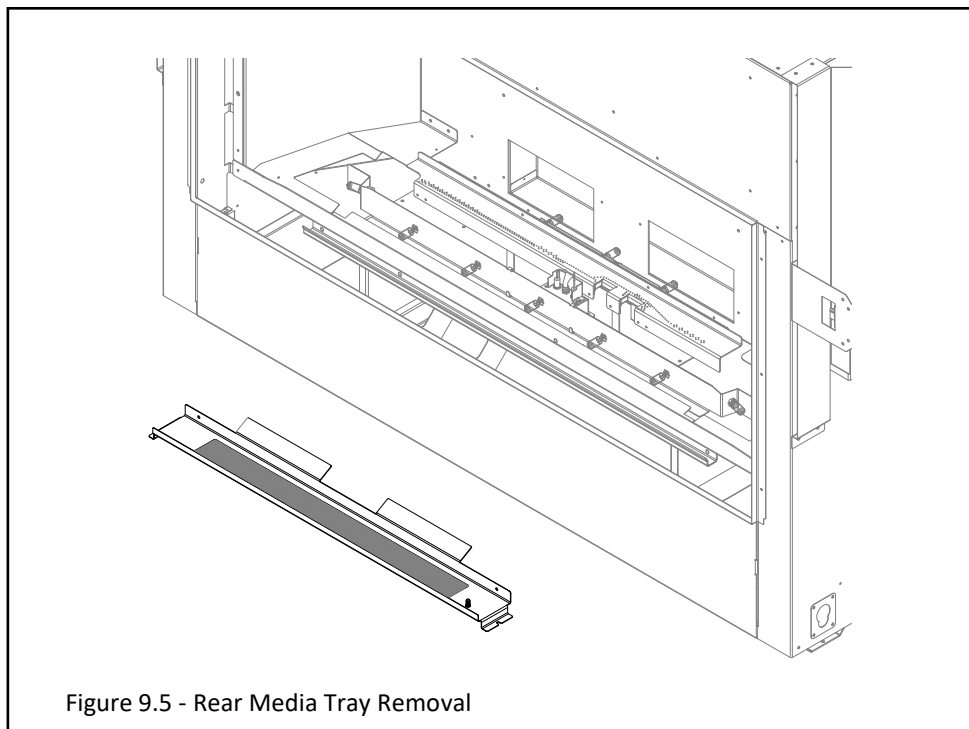

Figure 9.5 - Rear Media Tray Removal
2. Remove and retain (2) screws from the back ember bed media tray. Remove media tray. See Figure 9.5.
3. Install (3) halogen bulbs (included in components packet) into the lamp base.